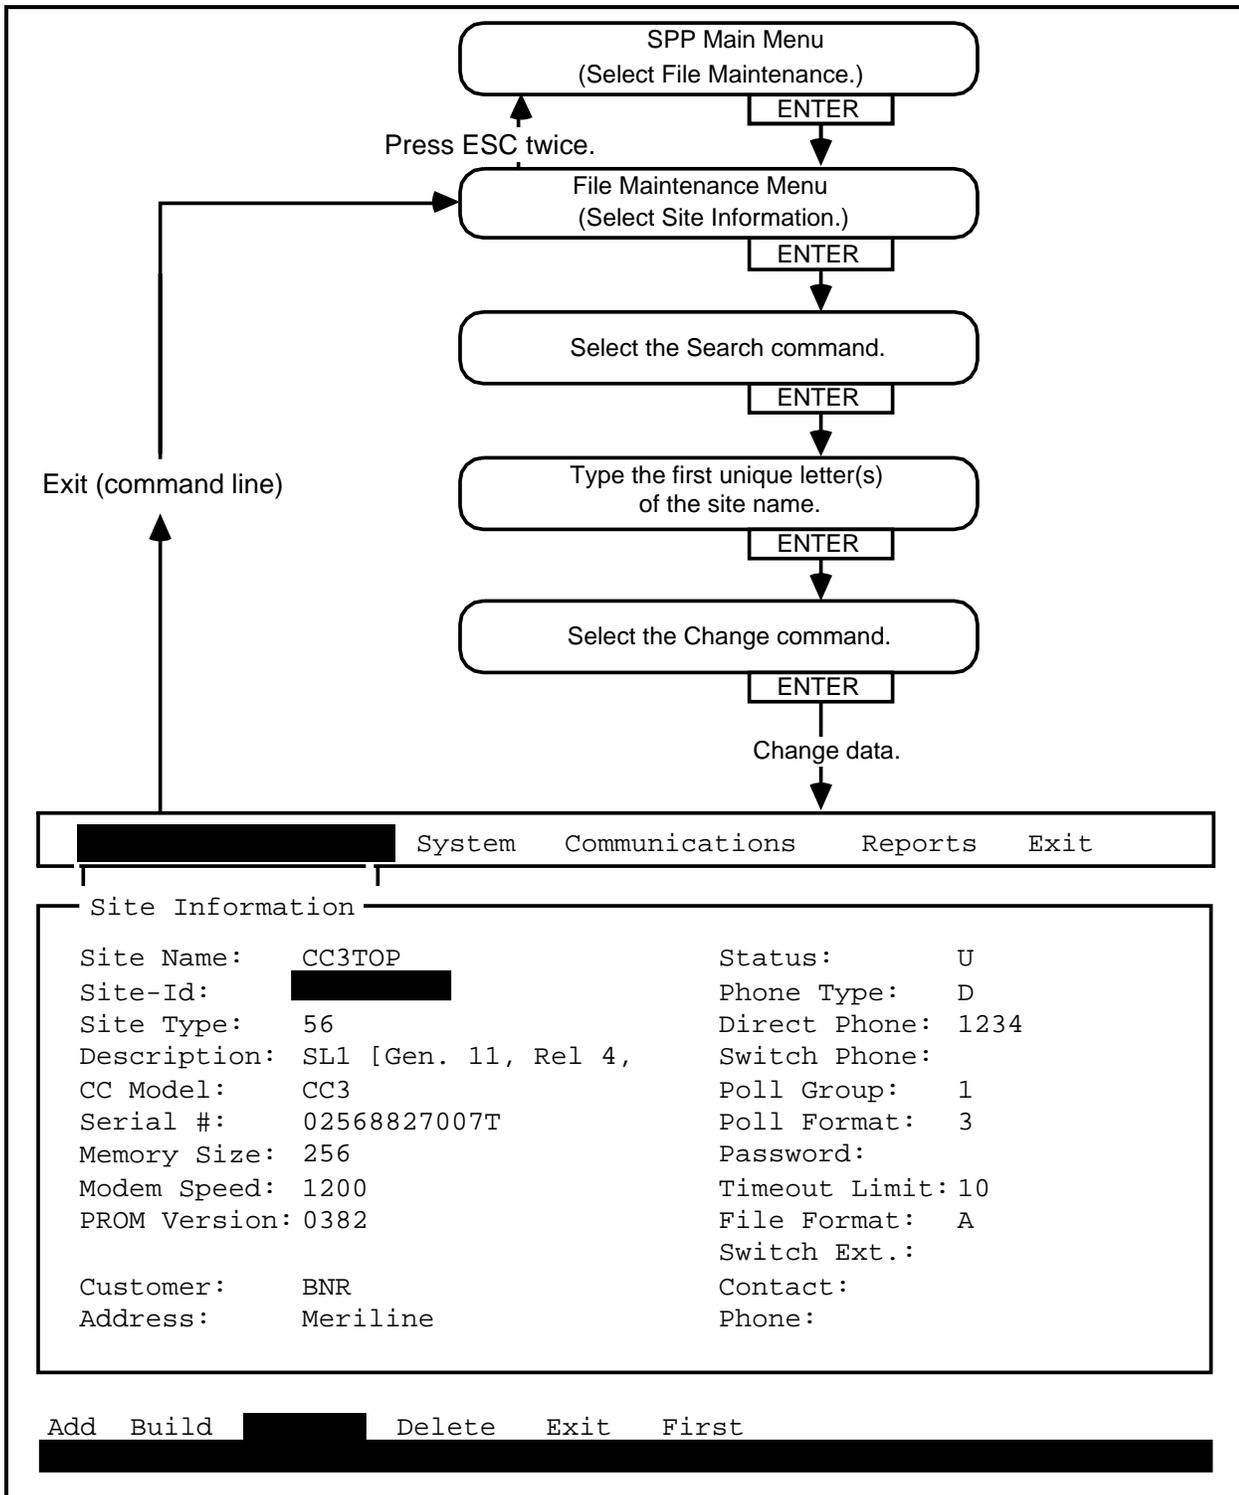

Fig. 3-3
3.07 To change a single site information record (see Fig. 3-3), proceed as follows: